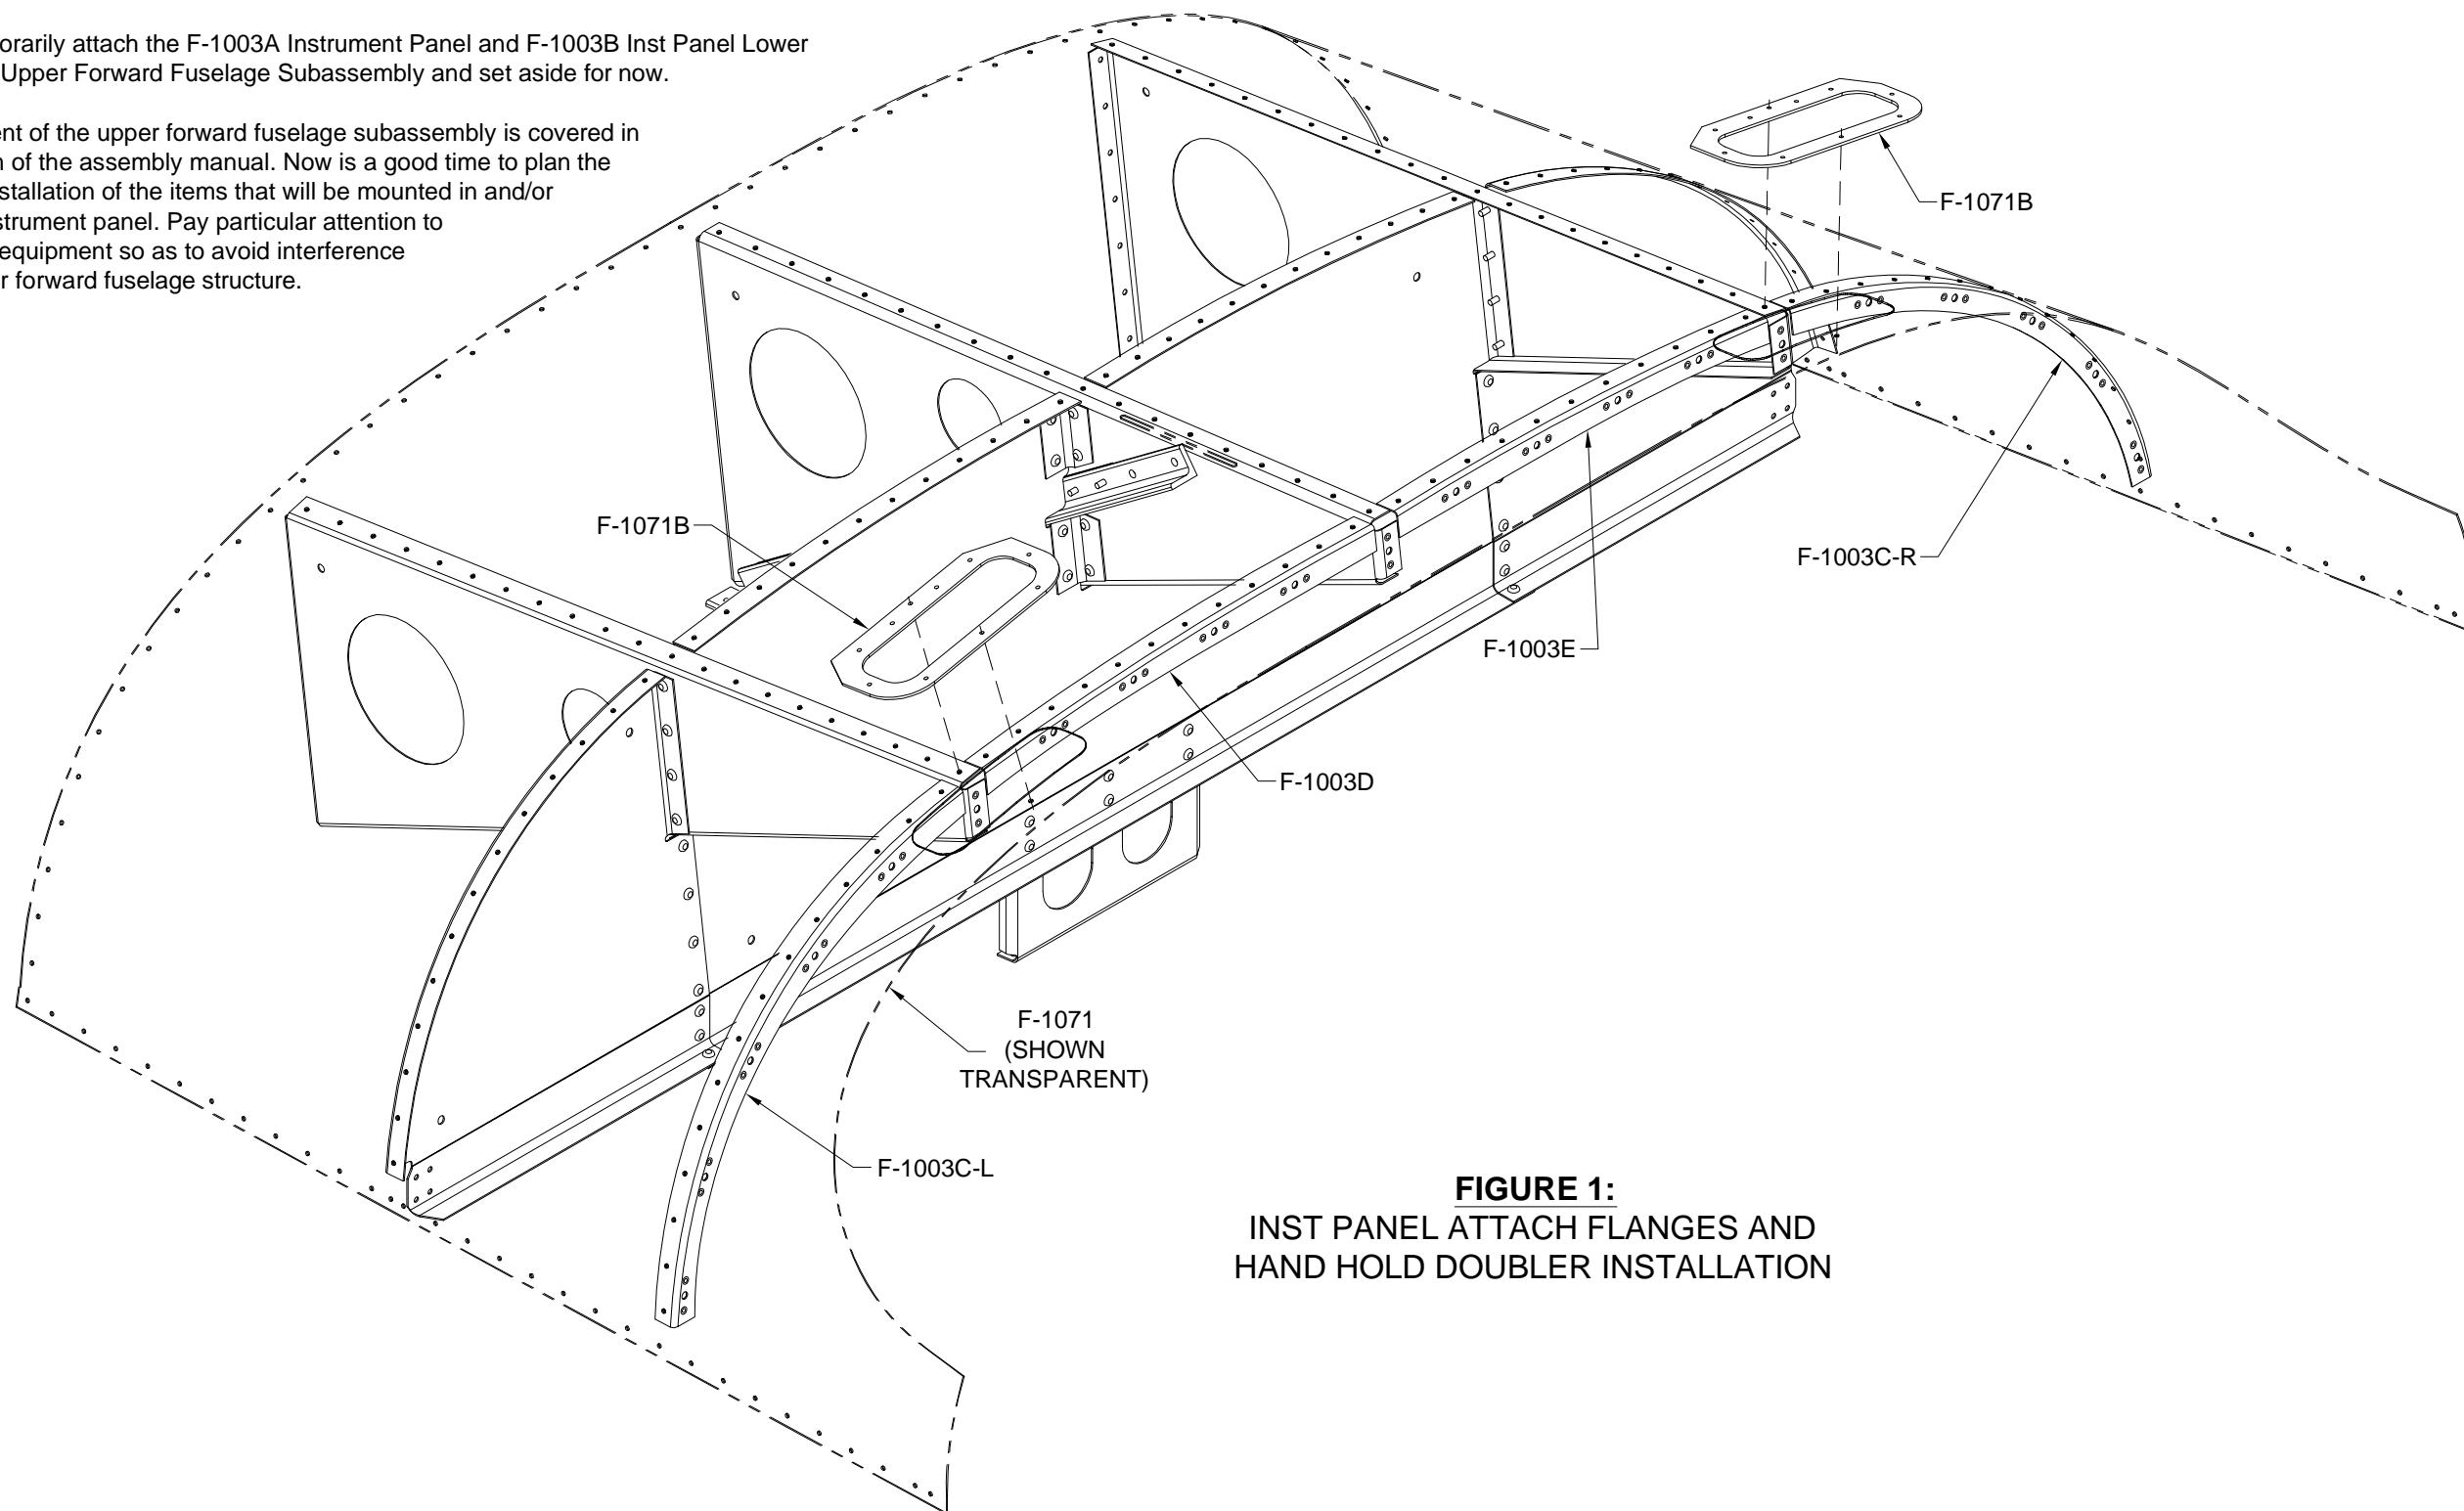

FIGURE 1:
Step 3: Rivet the two F-1071B Hand Hold Doublers to the F-1071 Fwd Fuse Top Skin as shown in Figure 1. Use the rivets shown in Page 31-9, Figure 2.